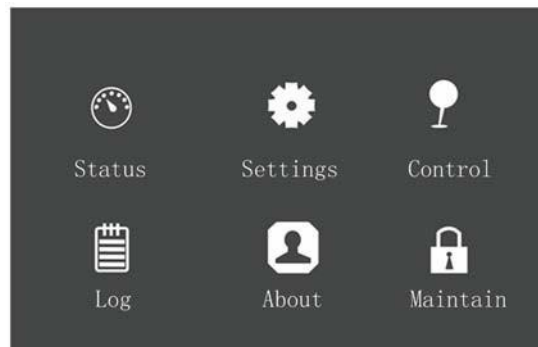

Figure 5-3 Main menu screen
a) Access the main menu screen, press the  or  key to select 'Settings', and press the  key to access the interface shown in Figure 5-3.